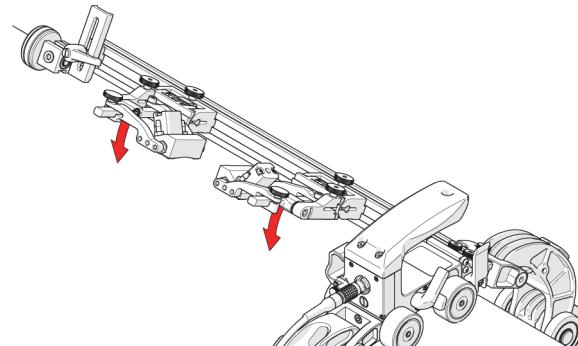

Figure 3-13 Lower probe holders
12. Lower the probe holders to the scan surface (see Figure 3-13 on page 88 and "Probe Holder Adjustment" on page 59).